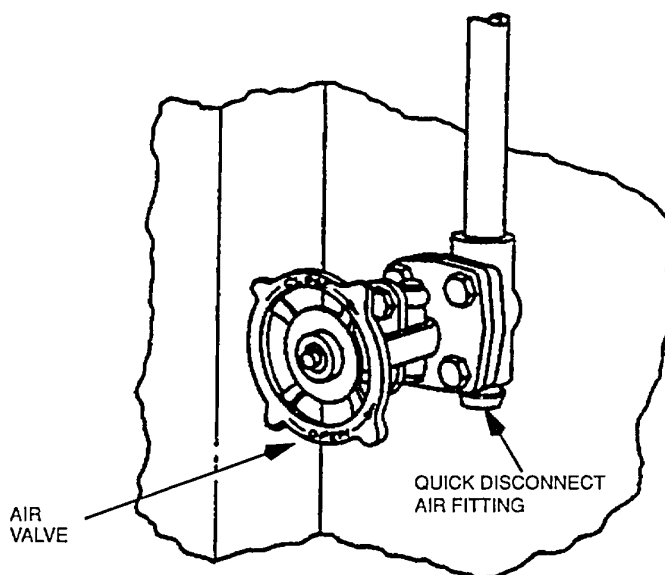

Figure 3-6. Air Station Air Valve and Quick Disconnect
- a. Connect air hose to compressed air station quick disconnect coupling (Figure 3-6). Open air station air valve by turning counterclockwise.